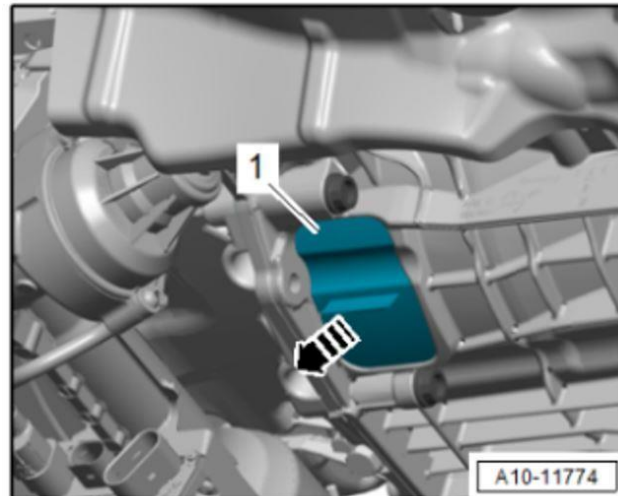

Figure 4. Lower bellhousing access cover.
2. Remove the lower cover (Figure 4) from the transmission to gain access to the drive plate bolts.